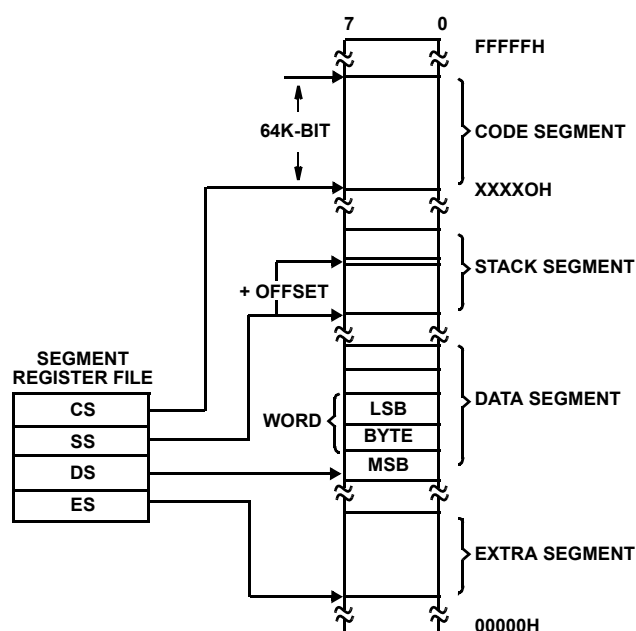

FIGURE 1. MEMORY ORGANIZATION
The processor provides a 20-bit address to memory which locates the byte being referenced. The memory is organized as a linear array of up to 1 million bytes, addressed as 00000(H) to FFFFF(H). The memory is logically divided into code, data, extra, and stack segments of up to 64 bytes each, with each segment falling on 16-byte boundaries (see Figure 1).